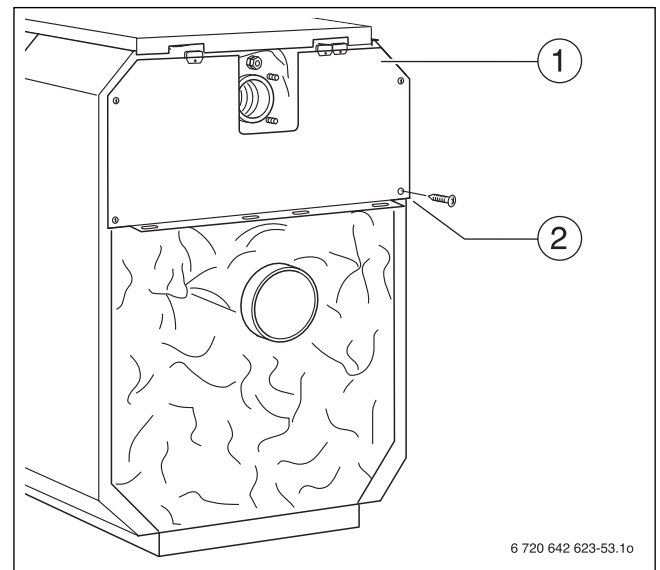

Fig. 55 Fitting the rear boiler panel
- ▶ Push upper rear boiler panel under the rear boiler cover (→ Fig. 55, [1]) and screw to the side panels from the back using four self-tapping screws (→ Fig. 55, [2]).